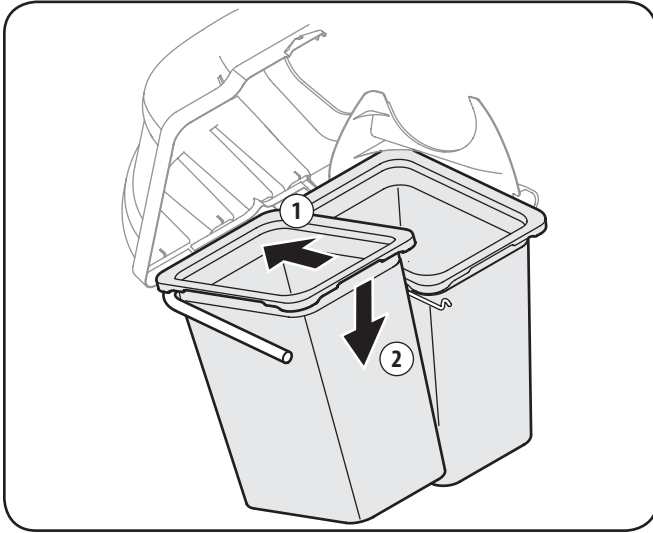

Figure 4-13
7. Install both grass bag assemblies, with the tight mesh sides facing forward, onto the bag support brackets by inserting the front edge in first, as shown in 1 of Figure 4-13, and setting the back edge down (2) until it fits into the assembly.